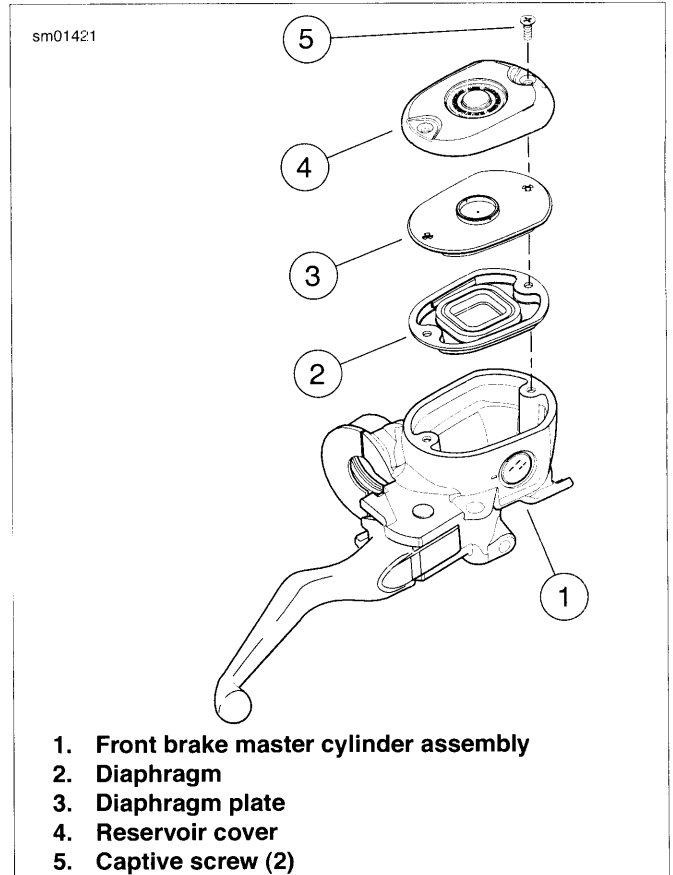

**Figure 1-20. Front Brake Master Cylinder Reservoir (typical; XL model shown)**
1. See Figure 1-20. Position motorcycle so that front master cylinder reservoir (1) is level.